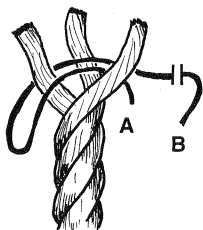

Figure 81. Form a bight about 3" from the end of the whipping cord. Then lay the running ends (A) and (B) between the opposite strands of the rope.
To make the sailmaker's whipping, first unlay the three strands at the end of the rope about 1" (see figure 81). With a length of whipping cord approximately 16" long, form an open bight about 3" long at one end of the cord. Slip the bight over one strand and then lay
the two running ends of the cord between the remaining two strands of the rope (see A and B in figure 81).
To complete the whipping, bring the original bight up over the same strand it was originally looped over (see figures 81 and 83). Then pull the short end of the whipping cord until the bight is pulled tight on top of the wrappings. Finally, bring both ends of the whipping cord, (A) and (B), up to the end of the rope and tie a square knot, pulling it down tight between the strands of the rope and snug on top of the wraps (see figure 83). Cut off any excess from the ends of the whipping cord. This sailmaker's whipping will stay put under hard use.